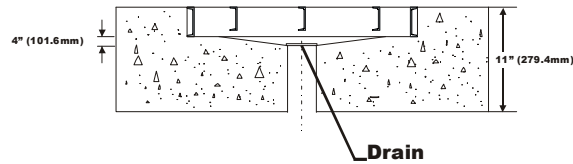

FIG. 25 - DRAIN INSTALLATION DIMENSIONS
Step 3. Should pit drainage be required, slope the pit floor to an installed drain while maintaining a level area at each corner. (See Fig. 25)
- Step 4. The drain hole will have to be deep enough to accommodate the pit coping, plus the thickness of the pit floor. (See Fig. 25)